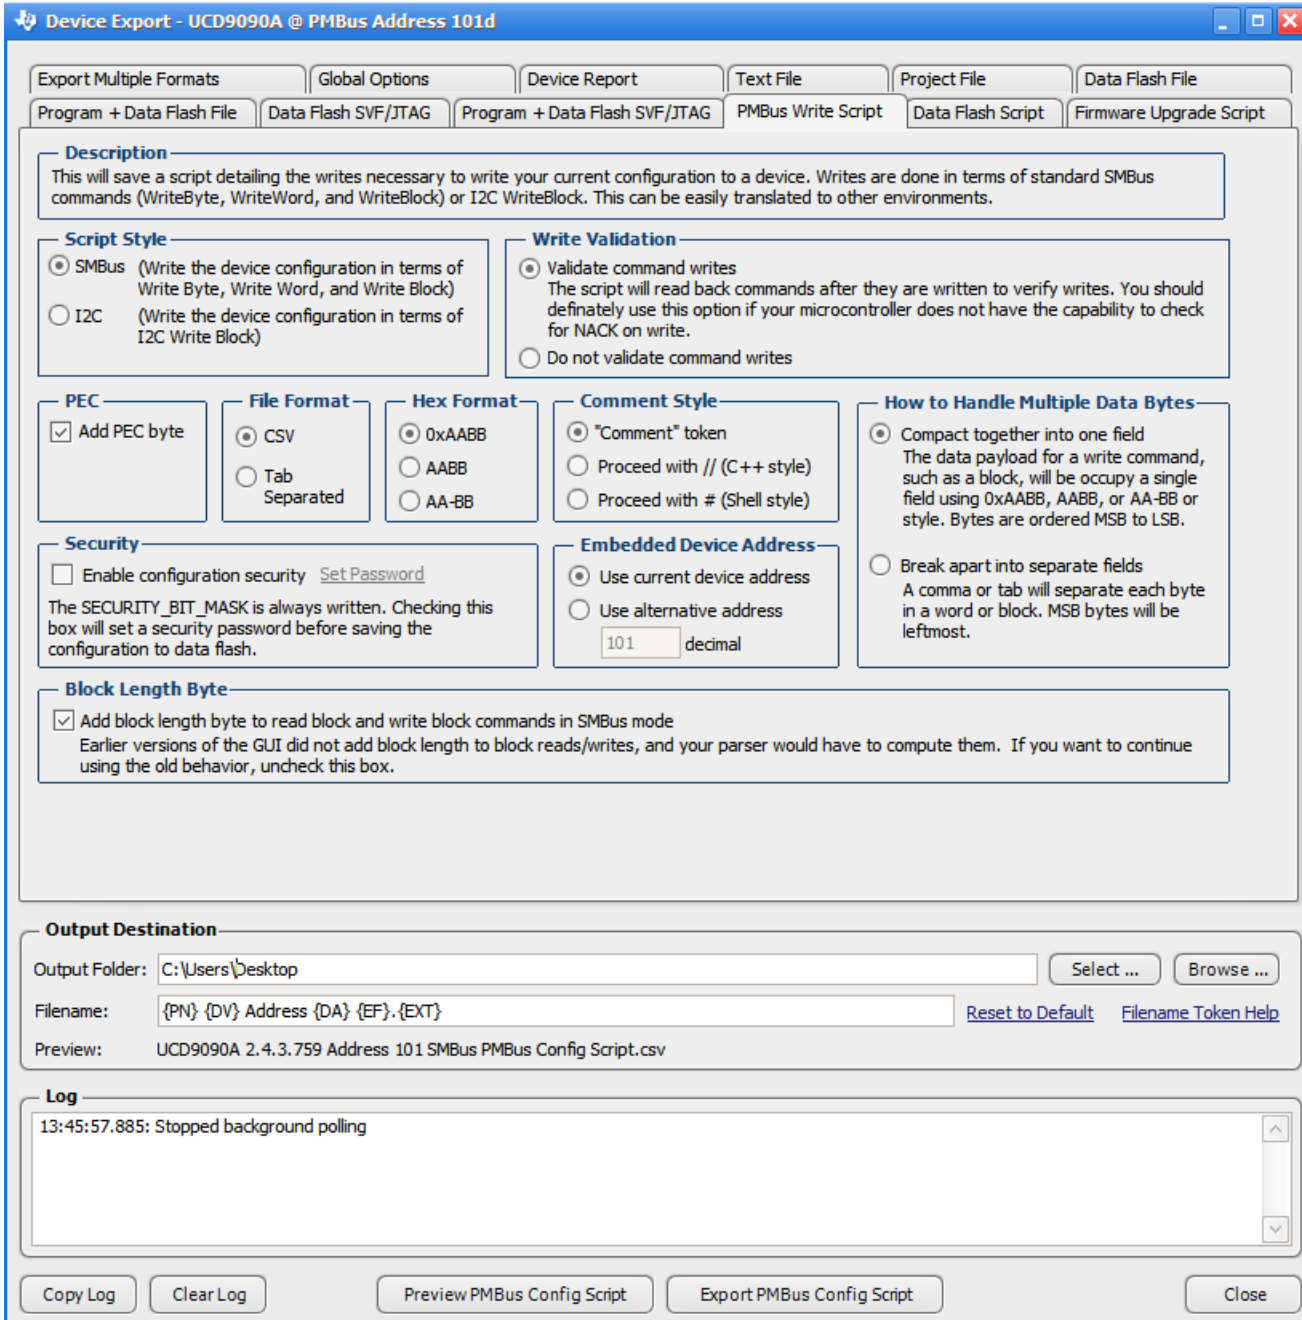

图 7-28. Fusion GUI PMBus Configuration Script Export Tool
2. The *Fusion GUI* (图 7-28) can create a PMBus or I²C command script file that can be used by the I²C master to configure the device. This method may cause unexpected behaviors on GPIO pins which can disable rails that provide power to device. It is not recommended for production programming.